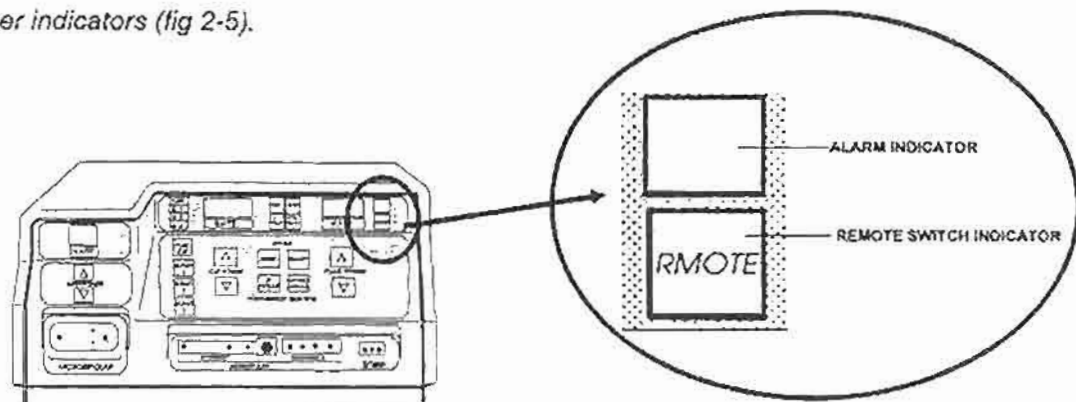

Figure 2-5. Front panel, other indicators.
(5) *Other indicators (fig 2-5).*